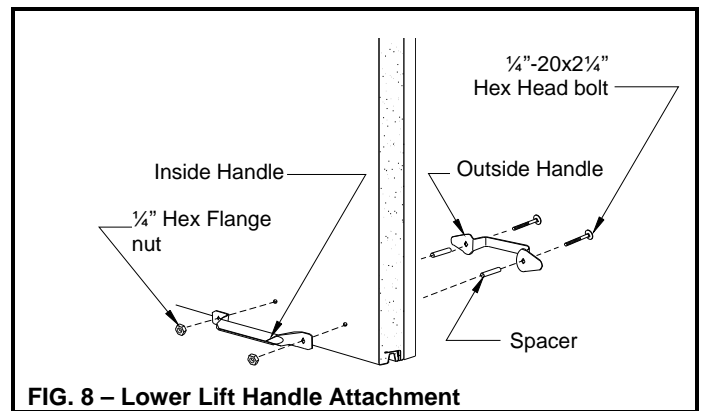

FIG. 8 – Lower Lift Handle Attachment
Step 5: Attach the black ornamental handle (outside) and the steel roll grip handle (inside) to the door using two 1/4"-20x2 1/4" black painted hex head bolts, and two 1/4" hex flange nuts (See Fig. 8).